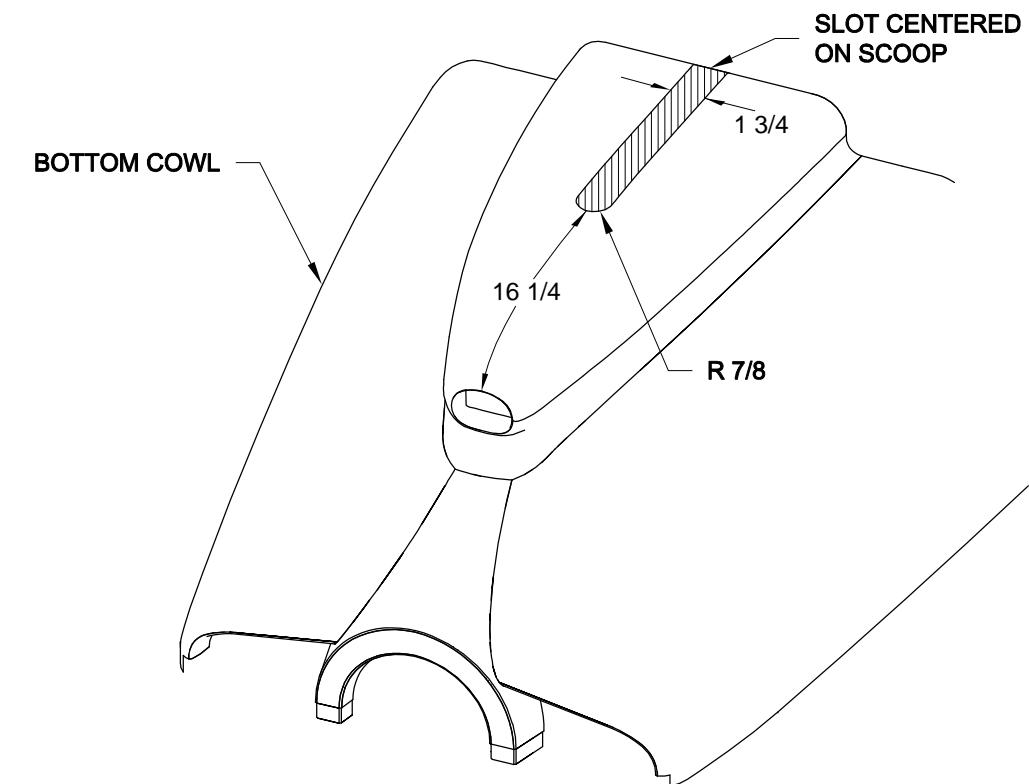

FIGURE 2: CUTTING A SLOT IN THE BOTTOM COWL SCOOP
Step 7: Cut a slot centered on the scoop of the bottom cowl per the dimensions given in Figure 2.